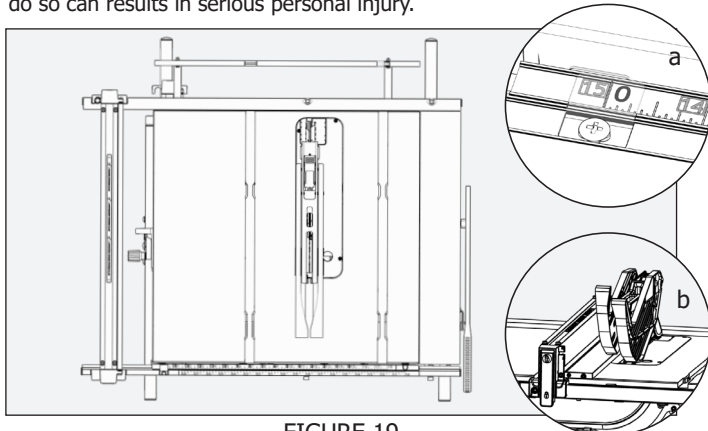

FIGURE 19
- Position 1 (P1): Uses the Blue scale for Left Rip Cuts of 0-15 inches. Use Ruler indicator (FIGURES 19 and 19a).
For thin materials use the fence on the left of the blade. Fold down the thin fence to allow use of blade guard. Subtract 2 inches from the scale for accurate measurement (FIGURE 19 B).